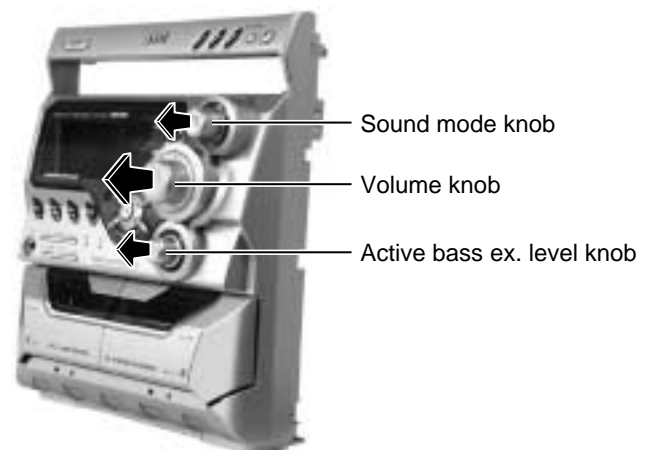

Fig.2
■ Removing the front key switch board (See Fig.2 and 3)